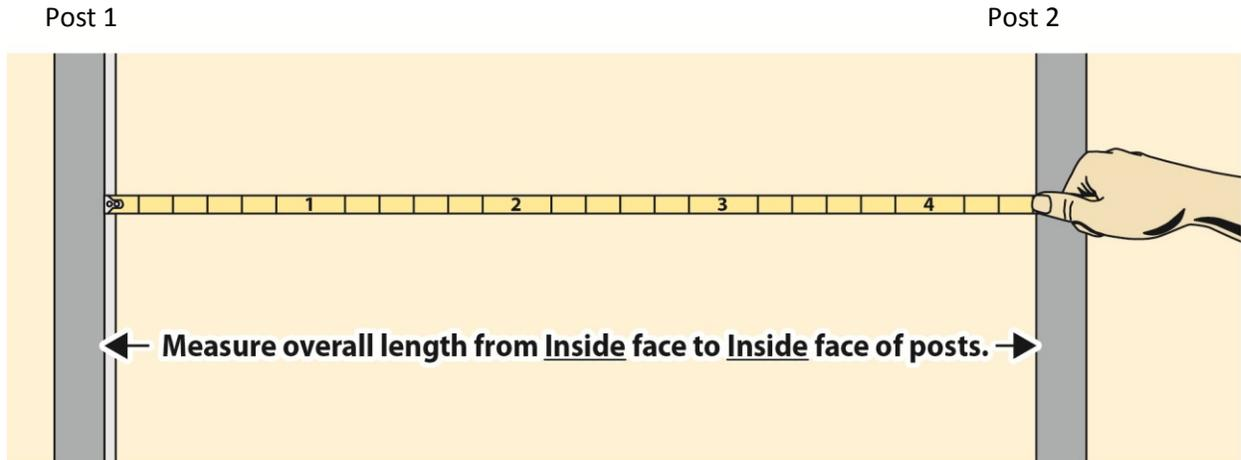

Fig 3
4.1 Doing only one section at a time, measure (Fig. 3) overall length from inside face of the beginning post (AKA terminal/end post) to the inside face of your ending post face.
Attach a fitting, either a FineLine® Drill & Tap Turnbuckle (Fig. 4, Ref. #1) or Swage Stud with attached Cable (Fig. 4, Ref. #2), depending on the design at Post 2 (Fig.3).